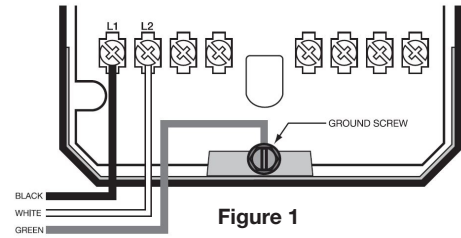

Figure 1
**STEP 1** Two mounting positions are available on the back of the control (Fig. 1). Select which of the two positions (2 knockouts) is best for the location of the control. Remove the knockout.
Improper grounding of the control may result in ignition noise interference or nuisance low-water lockouts. To ensure proper operation, connect the ground wire from the electrical panel to the HydroStat's ground plate screw located at the bottom of the control (see Fig. 1). For installations where grounding is provided through metal conduit, install the optional conduit ground insert plate (Part No. 51088, not included with all models). Attach the green wire from the insert plate to the HydroStat's ground plate screw (see Fig. 2).